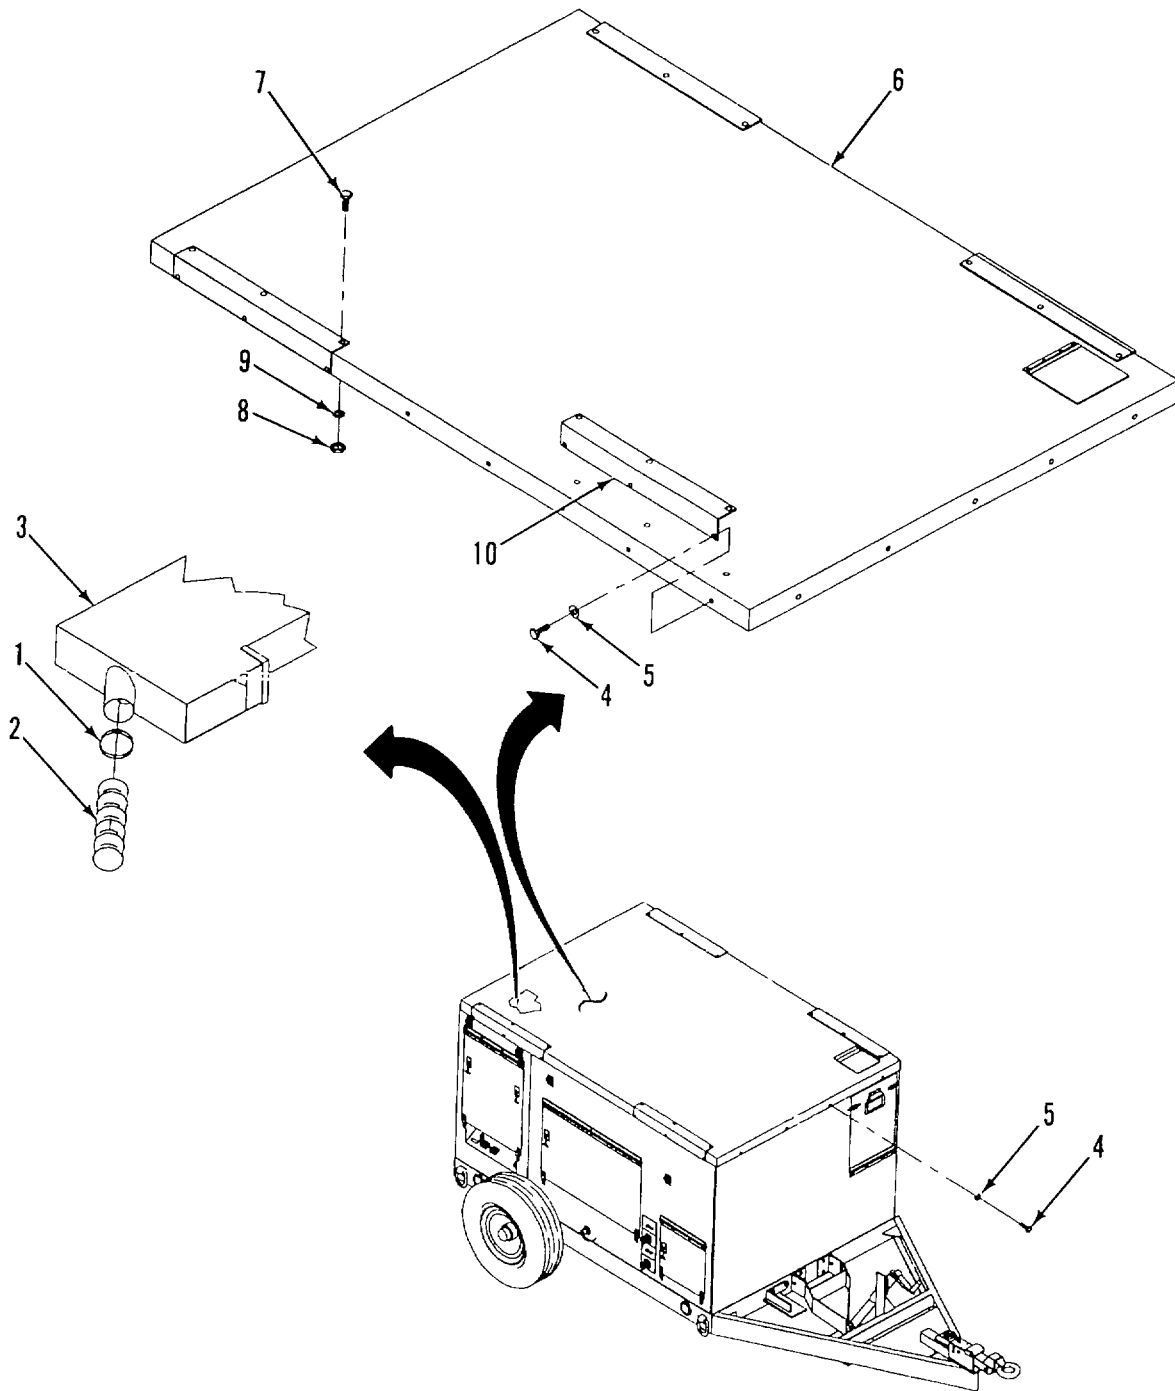

Figure 3-2. Noise Enclosure Roof
a. REMOVE. (Figure 3-2)
- (1) Loosen hose clamps (1) and disconnect air discharge hose (2) from air baffle (3) and engine.
- (2) Remove bolts (4), flat washers (5), and roof (6).
- (3) Remove bolts (7), nuts (8), lockwashers (9), and brackets (10) from roof (6).